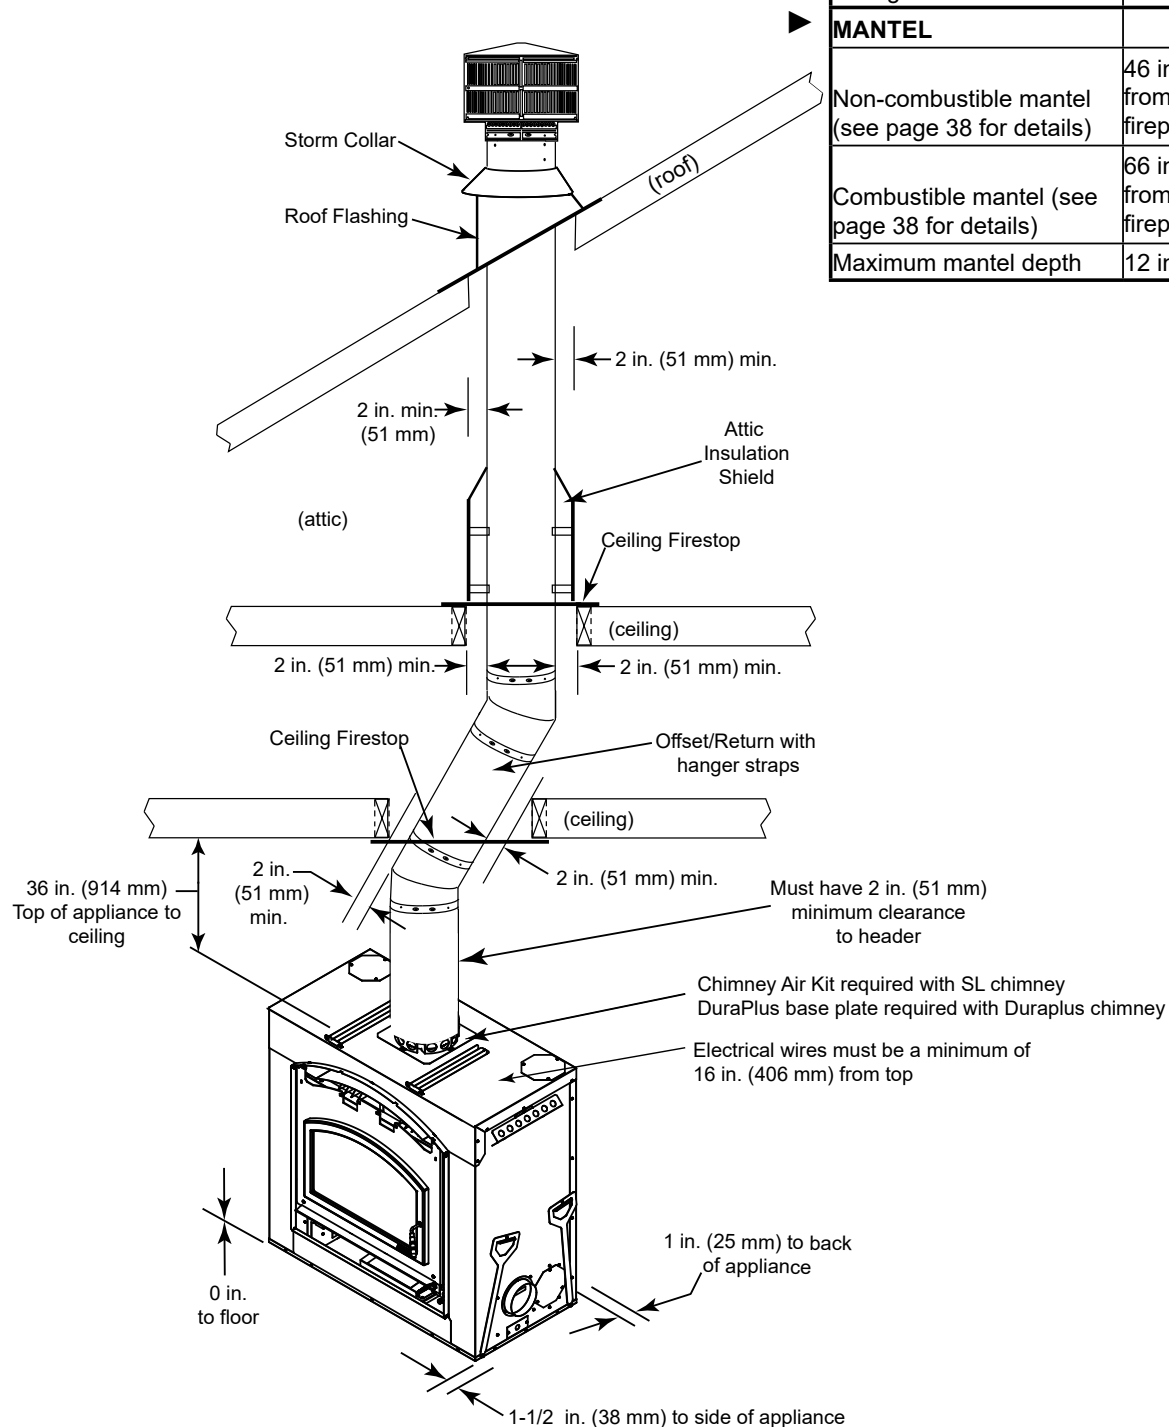
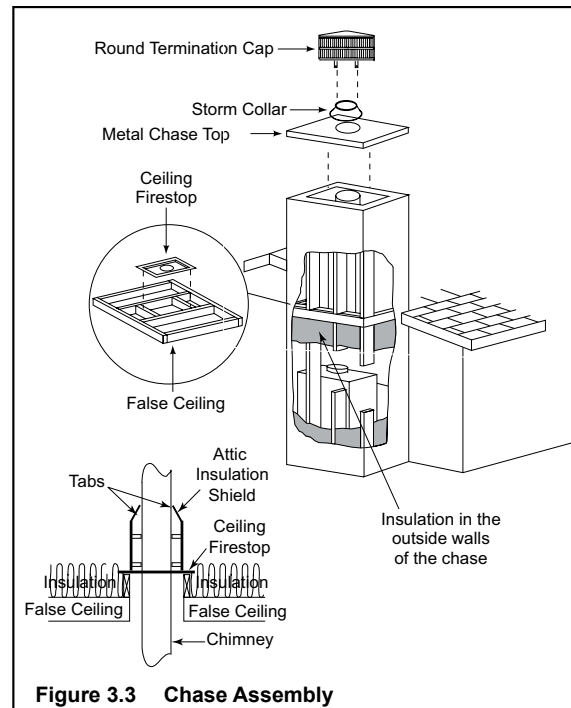

Figure 3.2 Clearances to Combustible Materials
Figure 3.3 Chase Assembly
You must comply with all minimum air space clearances to combustibles as specified in Figure 3.2. **DO NOT** pack required air spaces with insulation or other materials. Framing or finishing material used on the front of, or in front of, the fireplace closer than the minimums listed must be constructed entirely of non-combustible materials (i.e., steel studs, concrete board, etc.). Failure to comply may cause fire.
- In cold climates, the walls of the chase should be insulated to the level of the false ceiling as shown in Figure 3.3. This will help reduce heat loss from the home around the fireplace.
Figure 3.3 shows a typical framing (using 2 x 4 lumber) of the fireplace, assuming combustible materials are used. All required clearances to combustibles around the fireplace must be adhered to. See Figure 3.2. Any framing across the top of the fireplace must be above the level of the top non-combustible framing. (No recess above fireplace.)